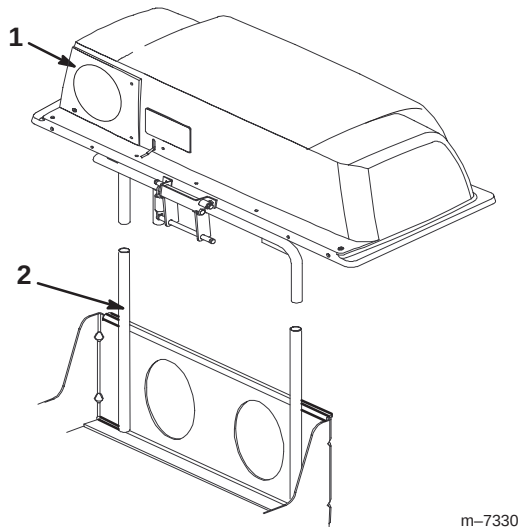

Figure 16
1. Carefully lift the bagger top assembly and slide it onto the bagger support assembly (Fig. 16). The bagger top assembly is easier to install if two people work together.